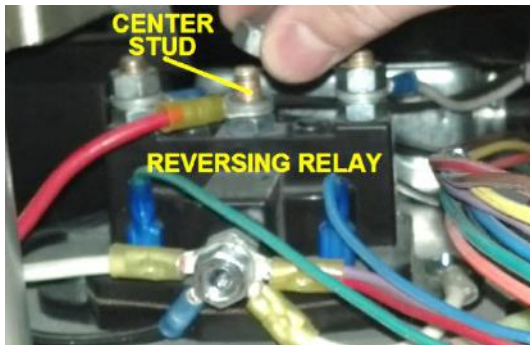

FIG. 14.8
- 14.3.6. Remove 1/2" nut from center stud on reversing relay (FIG. 14.8).
- 14.3.7. Install 5/16" ring terminal on yellow wire (with inline fuse holder) over center stud. Replace nut and tighten securely (FIG. 14.8 and FIG. 14.9).